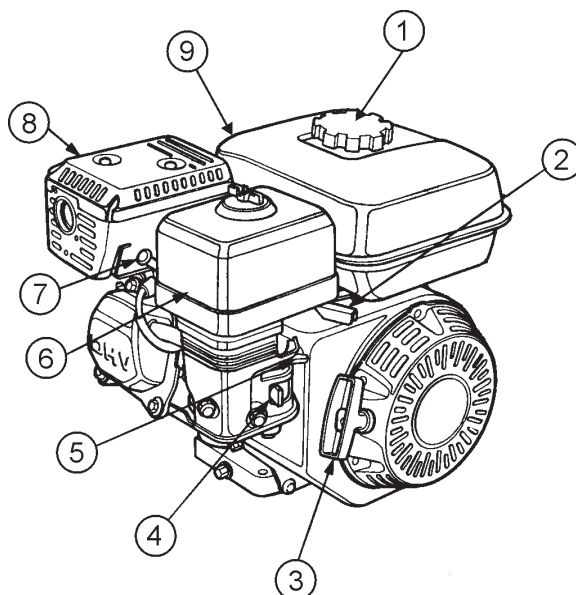

Figure 4. Engine Controls and Components (Honda GX390K1QWT2)
- Ensure that the blade is mounted for proper operating direction. (See Figure 4, page 13)
The engine (Figure 4) must be checked for proper lubrication and filled with fuel prior to operation. Refer to the manufacturers Engine manual for instructions & details of operation and servicing.